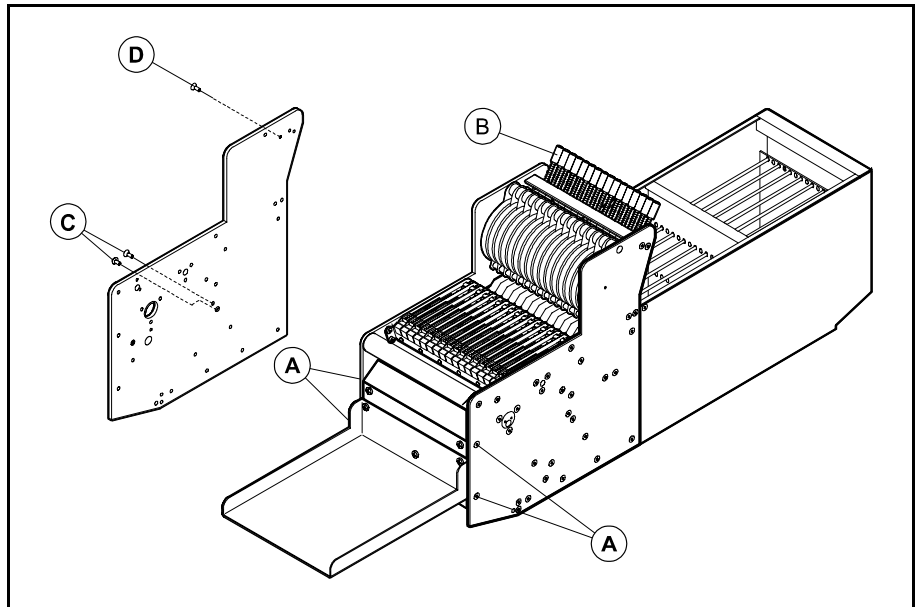

Figure 3. Dismantling the magazine
1. Remove the front cover plates by undoing the four fixing screws ('A' in Figure 3).
2. Release all the buttons for the cover tape take up reels (B).
3. On the right side of the magazine, undo the two screws at the solenoid bar (C) and the screw at the rubber covered driving shaft (D).